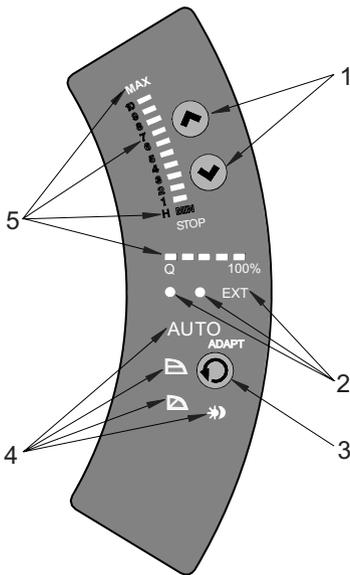

Fig. 13 Control panel
For position on pump, see fig. 13, section 8.2 *Control panel*.
The control panel, fig. 13, incorporates:
The light symbols in pos. 4, see fig. 13, indicate the pump settings: